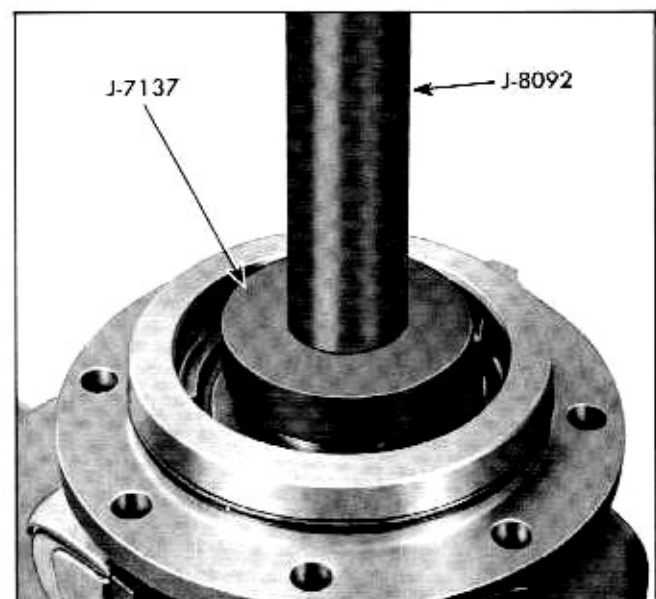

Fig. 4-47 Installing Rear Pinion Oil Seal
3. Install new seal using suitable flat surface tool such as J-7137 with J-8092 handle (Fig. 4-47).